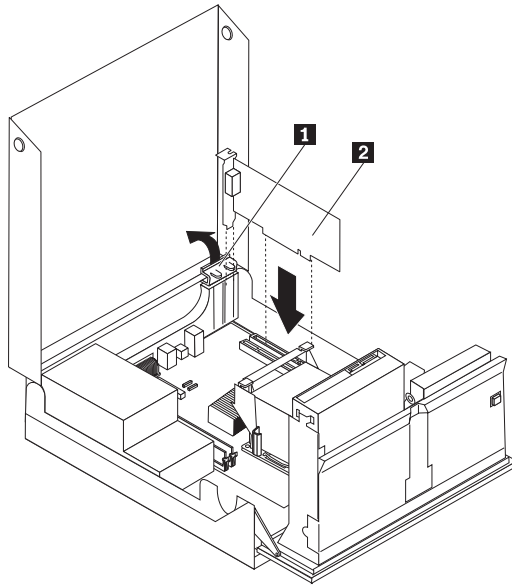

Figure 7. Installing the adapter card
2. While holding the rear of the computer chassis down, rotate the adapter retainer **1** to the open position. Remove any adapters **2** that are currently installed. See Figure 7.